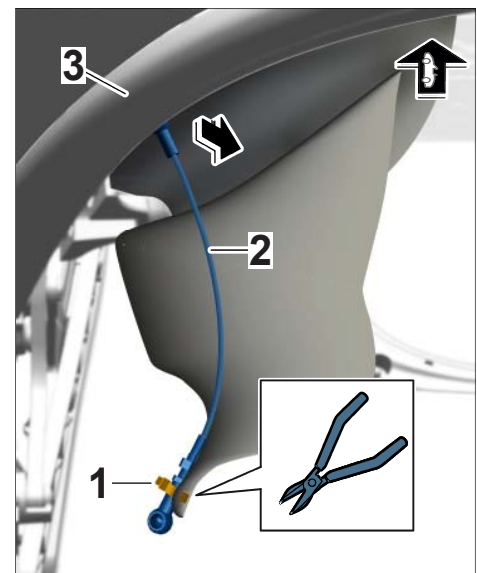

Figure 1
- 2.1 Cut tie-wrap ⇒ *Figure 1 -1-* at the lower ball socket of the tension rope ⇒ *Figure 1 -2-*.
- 2.2 Unclip tension rope ⇒ *Figure 1 -1-* from the ball joint of the tension bow ⇒ *Figure 1 -3-* (⇒ *Figure 1 -Arrow-*).